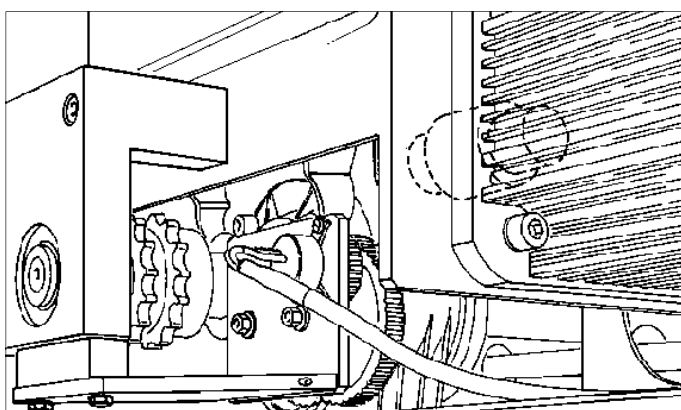

fig. 4.8
- Remove the potentiometer support plate fig.4.8, paying attention to the spacer.